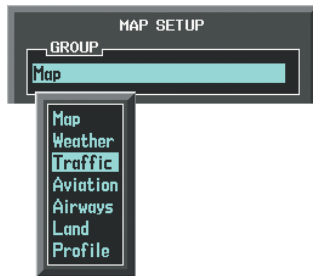

Figure 6-114 Navigation Map Page Setup Menu
- 4) Turn the small **FMS** Knob to select the Traffic Group and press the **ENT** Key (Figure 6-114).